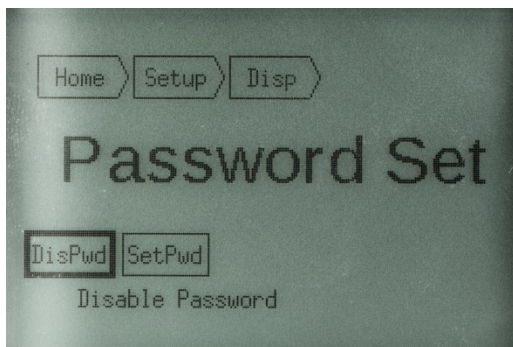

Figure 4-15: Password Set Screen
9. If the passwords **match**, the initial password screen (Figure 4-15) will reappear.